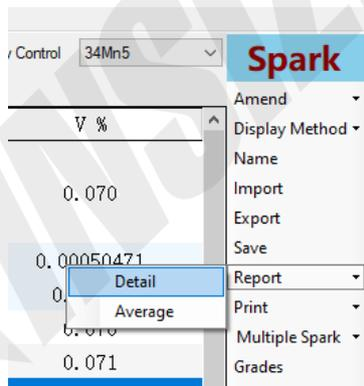

Figure 5-2 Report data
Step 1 Click "Detail" or "Average" under "Report", as shown in Figure 5-2: